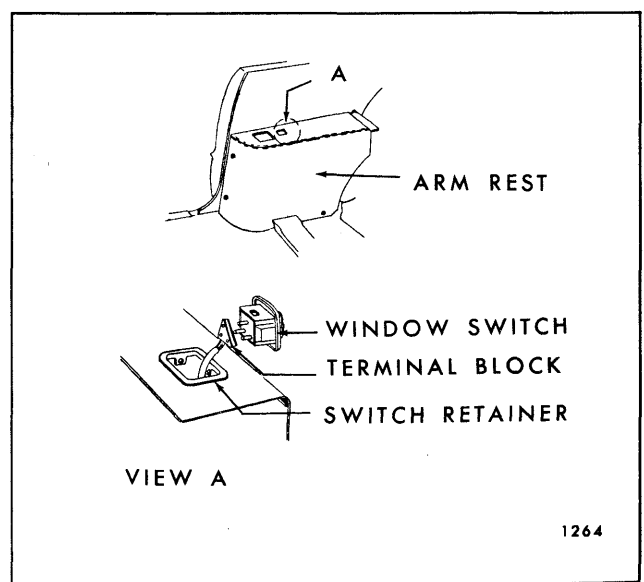

Fig. 8-3—Rear Quarter Arm Rest Window Switch
4. On styles with electrical devices in arm rest assembly, carefully detach arm rest from rear quarter inner panel sufficiently to disconnect wire harness connectors. Figures 8-3 and 8-4 are indicative of electrical installations in rear quarter arm rests. Lift arm rest in an upward, inboard movement and remove assembly from rear quarter inner panel.